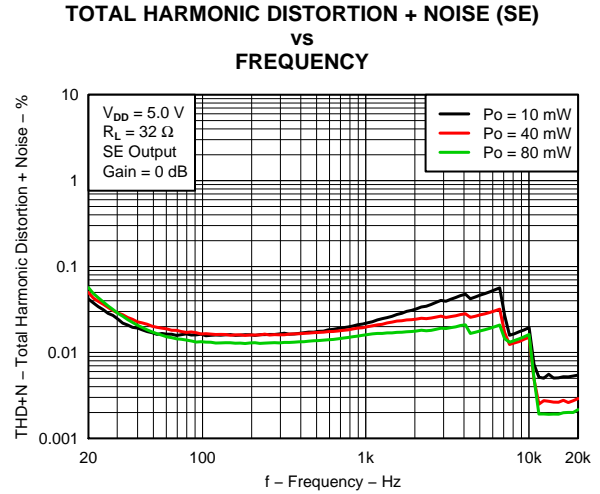
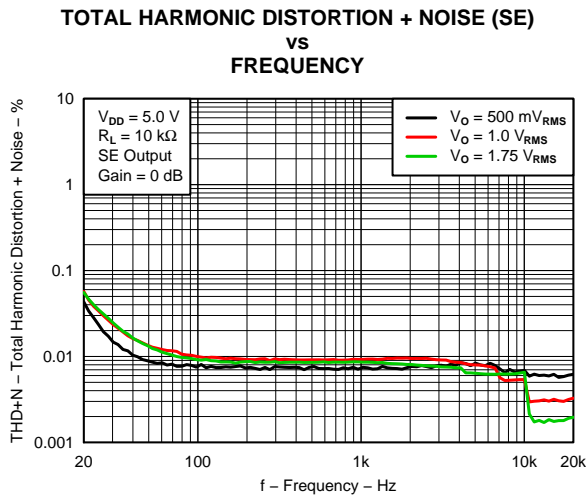

Figure 5.
Figure 6.
| THD+N | Total harmonic distortion plus noise (SE) | vs Frequency | Figure 5, Figure 6 |